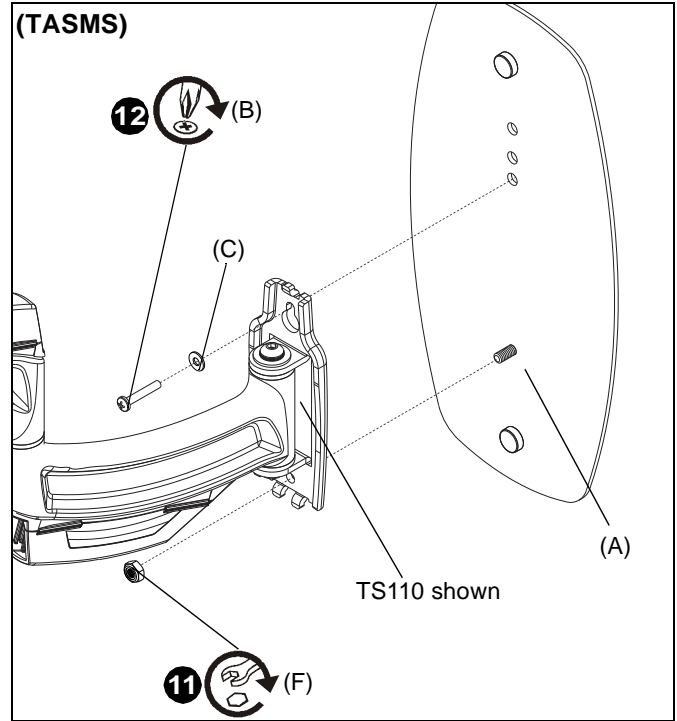
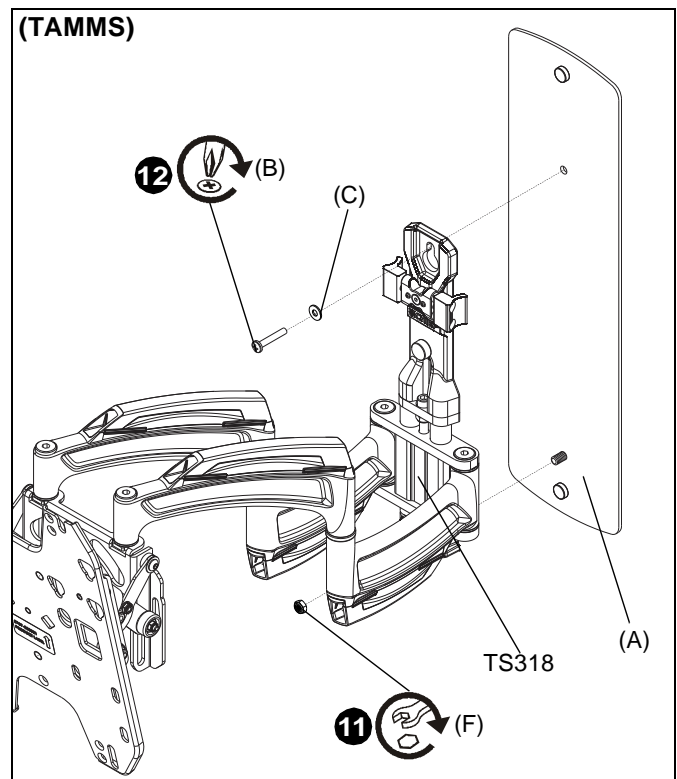

Figure 8
Figure 9
11. Use 1/4-20 hex nut (E) to secure Thinstall mounting system to adapter plate (A). (See Figure 8) or (See Figure 9)
12. Use 1/4-20 x 1 3/4" Phillips pan machine screw (B) and 1/4" washer (C) to secure Thinstall™ mounting system to adapter plate (A). (See Figure 8) or (See Figure 9)